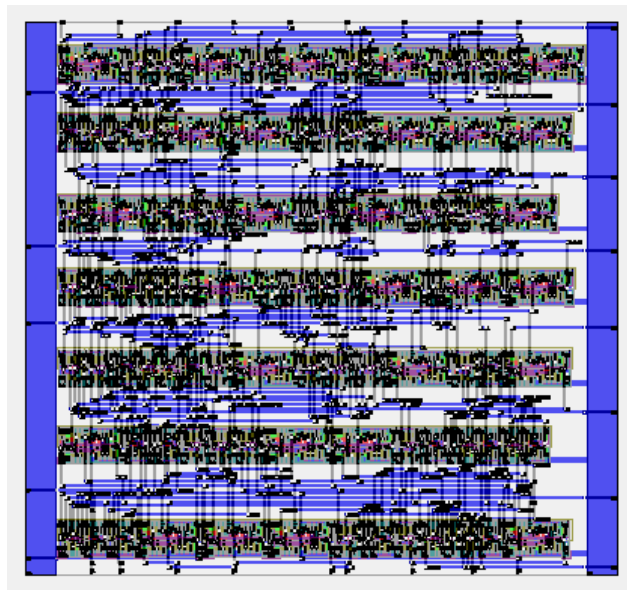

Figure 7 Example Standard Cell Block Layout
12. Build your blocks so that you can efficiently strap your rows with VDD / VSS as shown in Figure 7 (layer colors in this example are not correct). Note that left / right side power strapping should be **at least  $30 \lambda$  wide**. The final connections from the straps to the VDD / VSS pads should be **at least  $40 \lambda$  wide**.